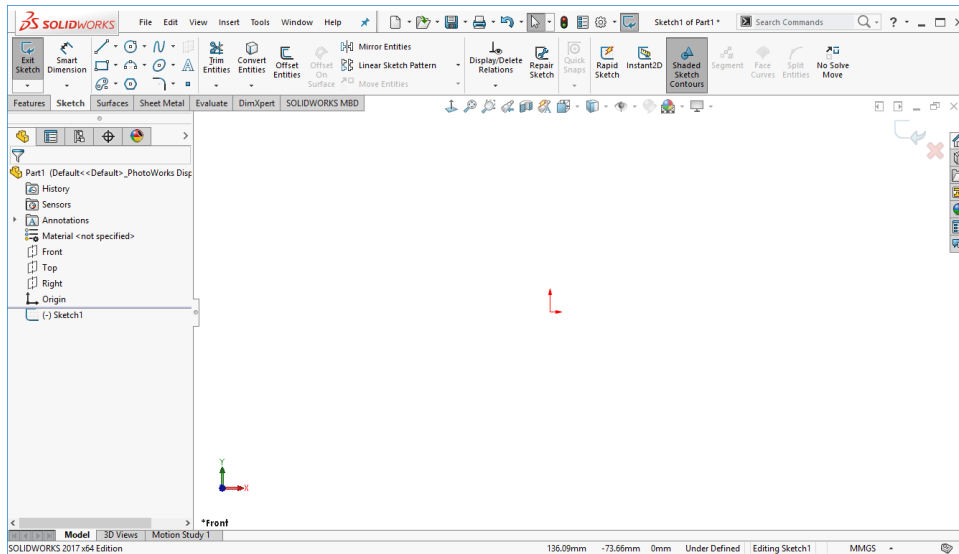

Figure 2-59 Screen display in the sketching environment
5. Select the **Front Plane** from the drawing area; the sketching environment is invoked and the plane gets oriented normal to the view. You will notice that red colored arrows are displayed at the center of the screen, indicating that you are in the sketching environment. Also, the confirmation corner with the **Exit Sketch** and **Cancel** options is displayed on the upper right corner in the graphics area. The screen display in the sketching environment of SOLIDWORKS 2017 is shown in Figure 2-59.